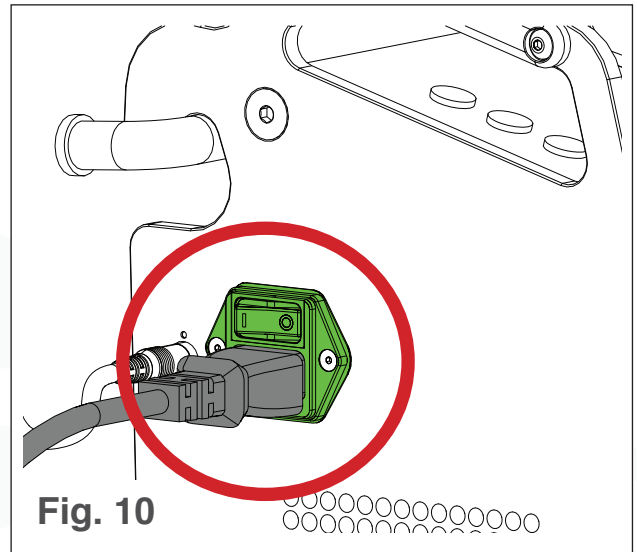

Fig. 10
3. Press the power switch above the AC power inlet on the control box (see Fig. 10).